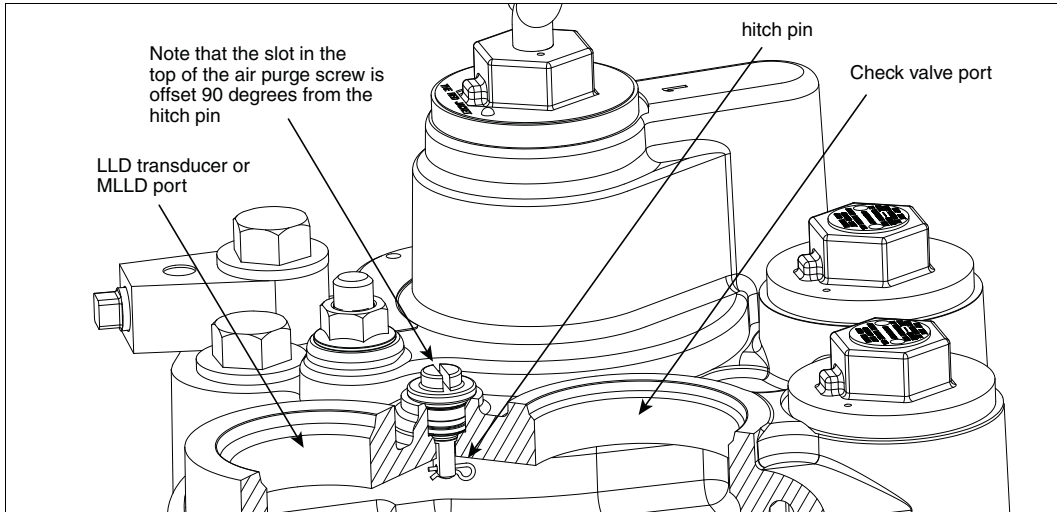

Figure 38. Locating air purge screw hitch pin
6. The air purge screw has a hitch pin that is set in the horizontal position to limit travel of the screw (see Figure 38).